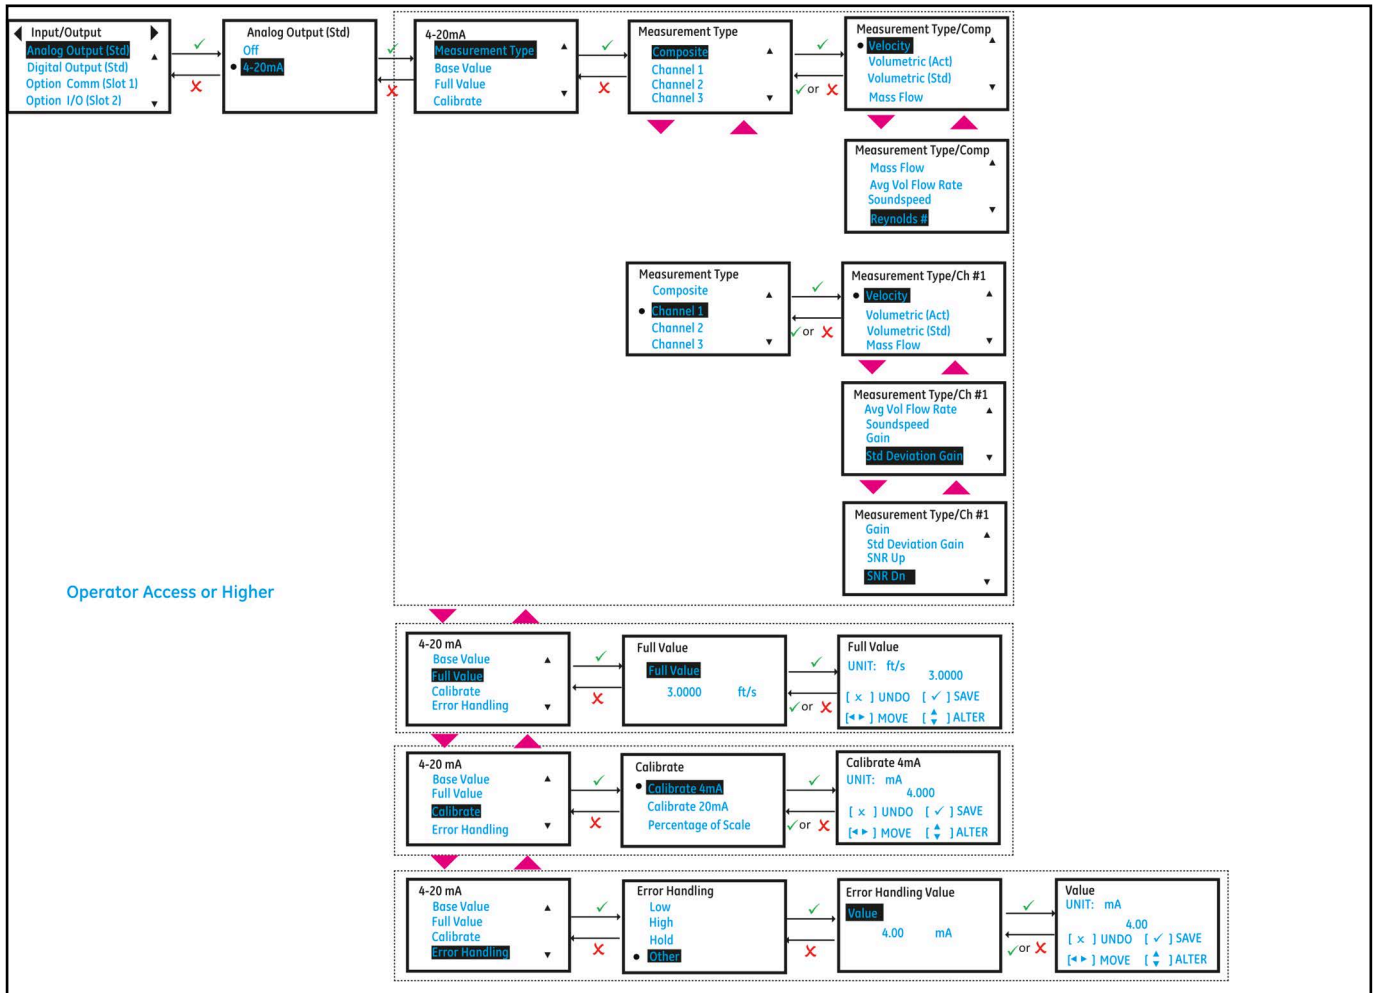
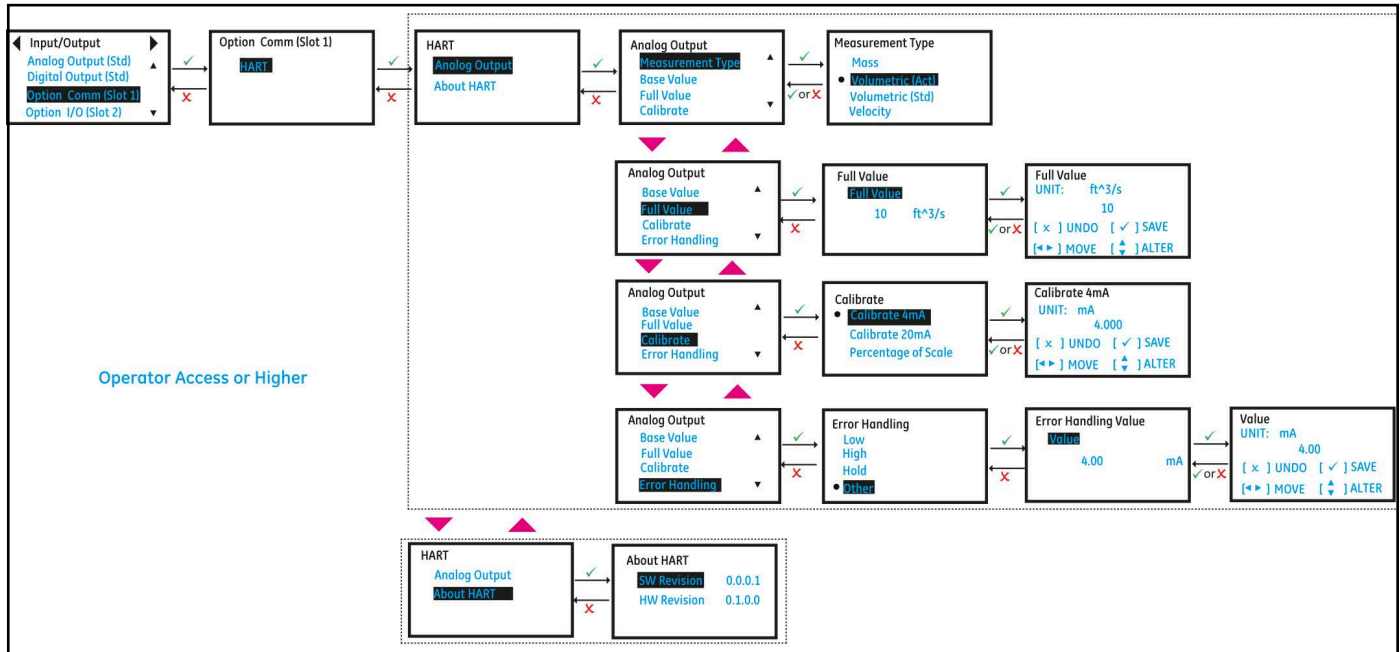

Figure 31: Setting up Analog Output
Figure 35: Option Slot-1 Configured as HART
3. If you are connecting an Analog Output, choose 4–20mA option. The *Figure 31* below, shows the options available.
2. You can set **Analog Output** with HART option. Refer to *Figure 35* and *Figure 31*.